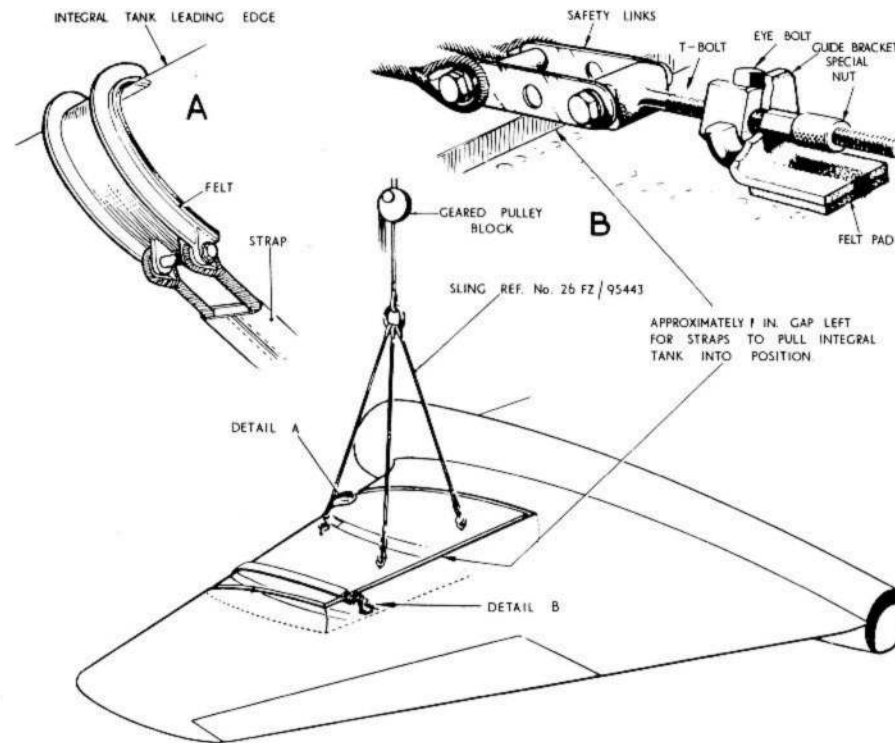

Fig. 17. Main plane integral tank installation
- (6) Remove the blanking plugs from the three slinging points in the tank upper surface and attach eyebolts Ref. No. 26FZ/95479.
- (7) Using a crane or gantry and a three-point sling Ref. No. 26FZ/95443 (illustrated in fig. 17) attached to a geared pulley block, take the weight of the tank.
(8) Remove the  $\frac{1}{4}$  in. and  $\frac{5}{16}$  in. B.S.F. screws securing the tank to the main plane.
(9) Ease the tank forward and away from the main plane, and lower the tank on to a suitable trestle.
68. To install a main plane integral tank refer to fig. 17 and proceed as follows:-